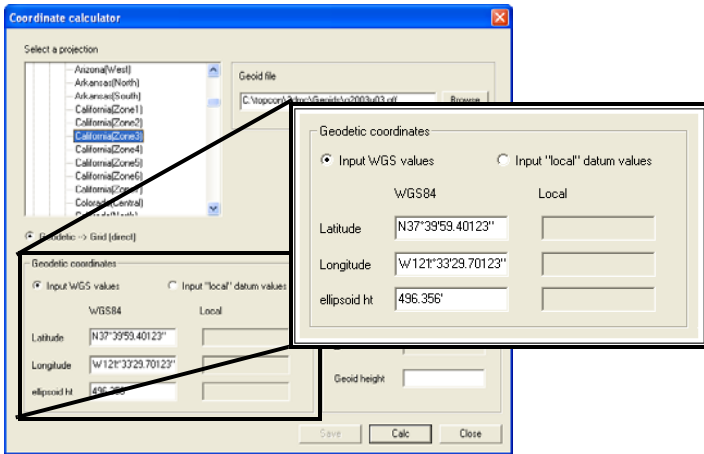

Figure 2-11. Enter Geodetic Coordinate Values and Geoid Height
4. Enter either WGS or Local geodetic coordinate values. Click the desired radio button, then type the *Latitude*, *Longitude*, and *ellipsoidal ht* value in each entry box (Figure 2-11 on page 2-10).